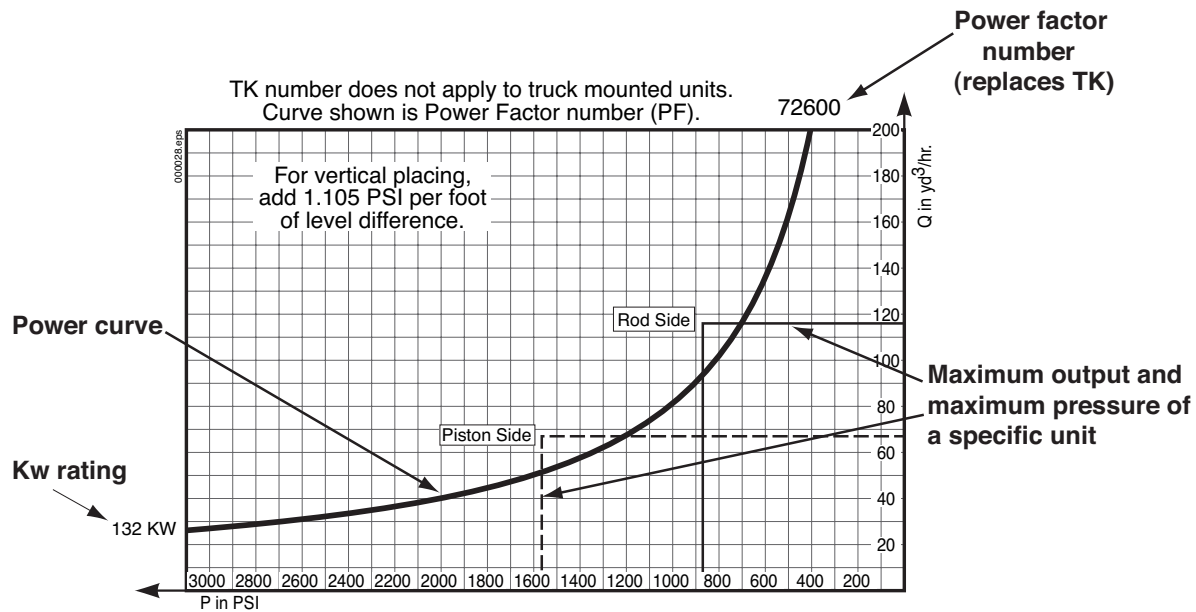

Figure 51
1. **The upper left quadrant** describes the power curve of a given hydraulic pump Kw rating and the maximum output and maximum pressure of a particular model of concrete pump (Figure 51).
Maximum pressure (abbreviated as max P) is determined by the size of the differential and material cylinders and the setting of the main relief valve. To be sure that the unit will handle the job, be careful to notice max P and max Q. Here is an example of why that is important: You contract to pump a job that requires only 20 yards per hour, but you calculate that you will need 2100 PSI pressure. The PF of this job is 42,000 (20 x 2100). The pump shown in Figure 51 has a TK of 72,600, so there is enough power available. However, the maximum pressure available from the pump is only 1570 PSI. This pump would not do the job.